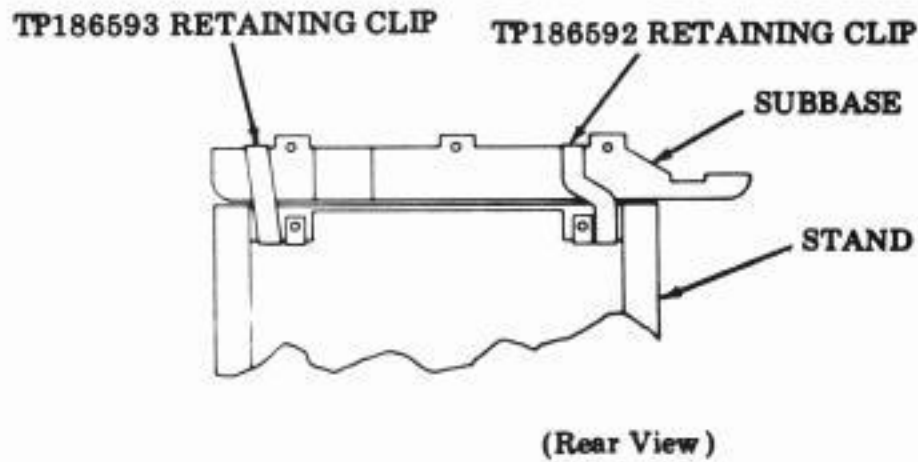

Figure 4 - Installation of Retaining Clips to Subbase and Stand
2.03 Place the subbase and typing unit on top of the stand so that its back edge and sides line up with the back edge and sides of the stand. Install the two retaining clips, included in the hardware bag, on the base at the rear (one each end) and snap them in place on the stand. Refer to Figure 4. Mount the base to the stand from the bottom with four TP181237 screws and four TP125928 flat washers.